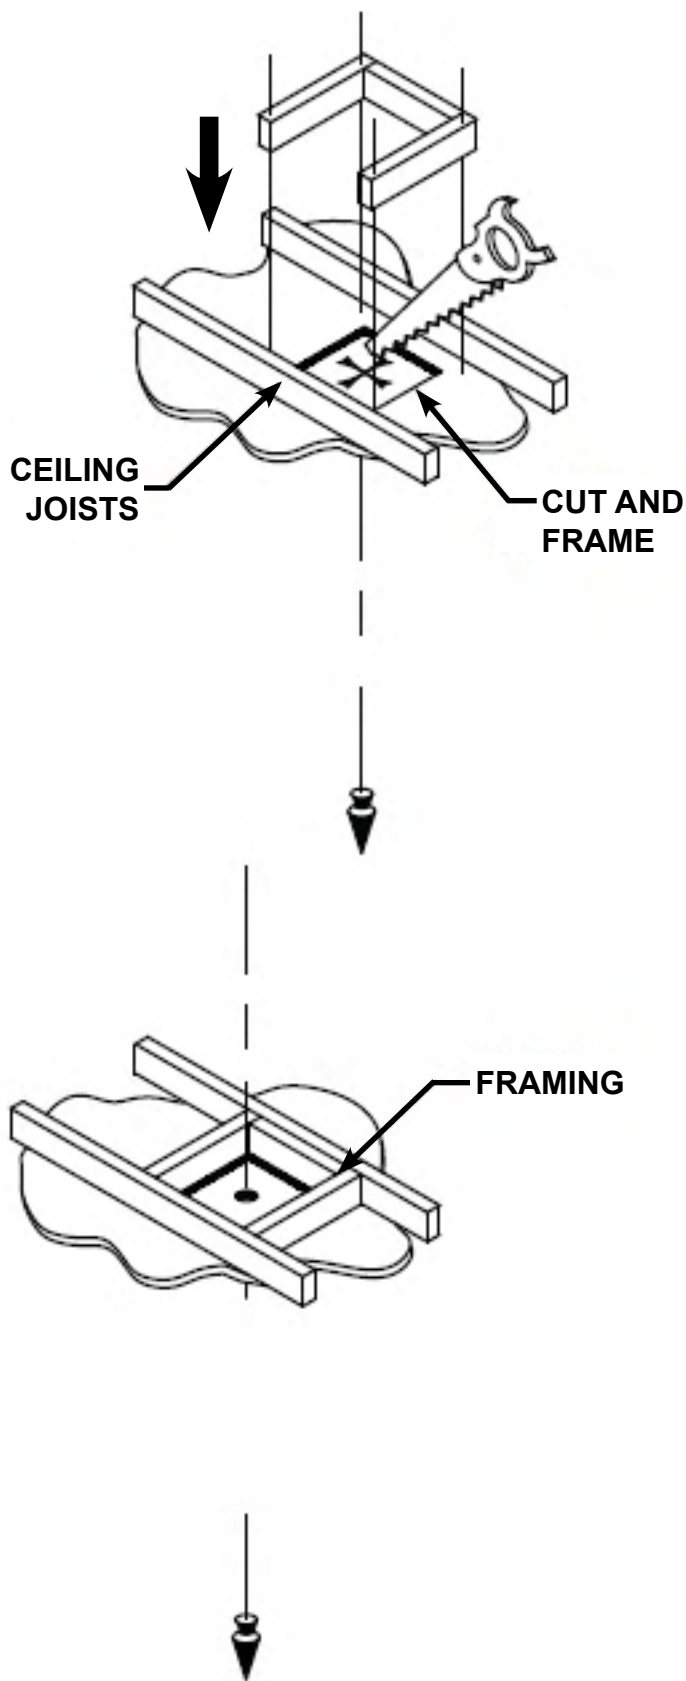

Figure 14
Step 3. To install Support Box in a flat ceiling cut a square hole in the ceiling 13" x 13" centered on the hole drilled in Step 2. Frame the hole as shown (Fig. 14).